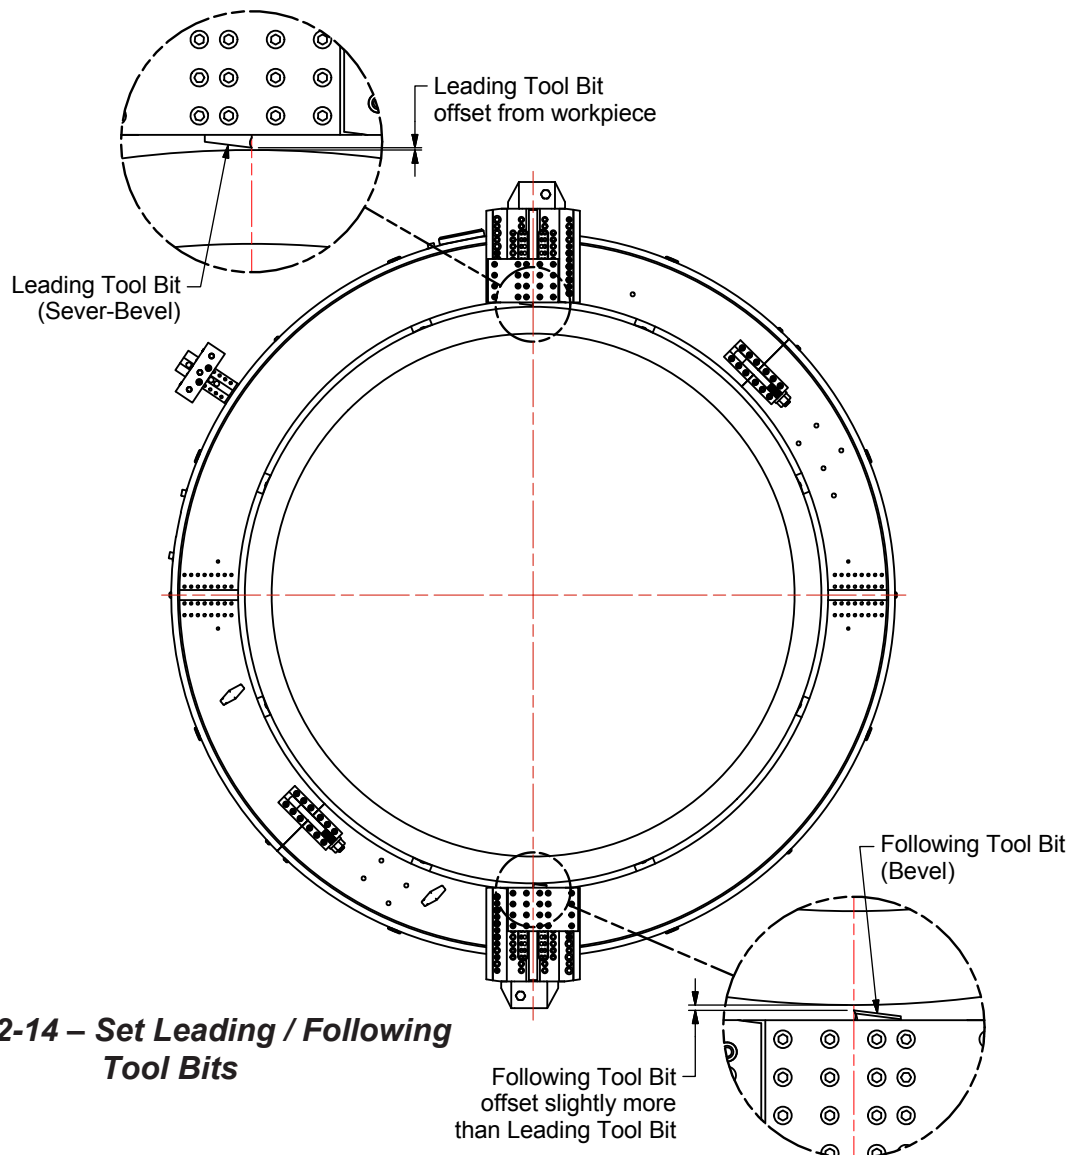

Figure 2-14 – Set Leading / Following Tool Bits
16. Back the following tool bit away from the workpiece slightly more than the leading tool bit. This will allow the leading tool bit to cut before the following tool bit. As the cut is made further, tool bit adjustment may be required. See Figure 2-14.